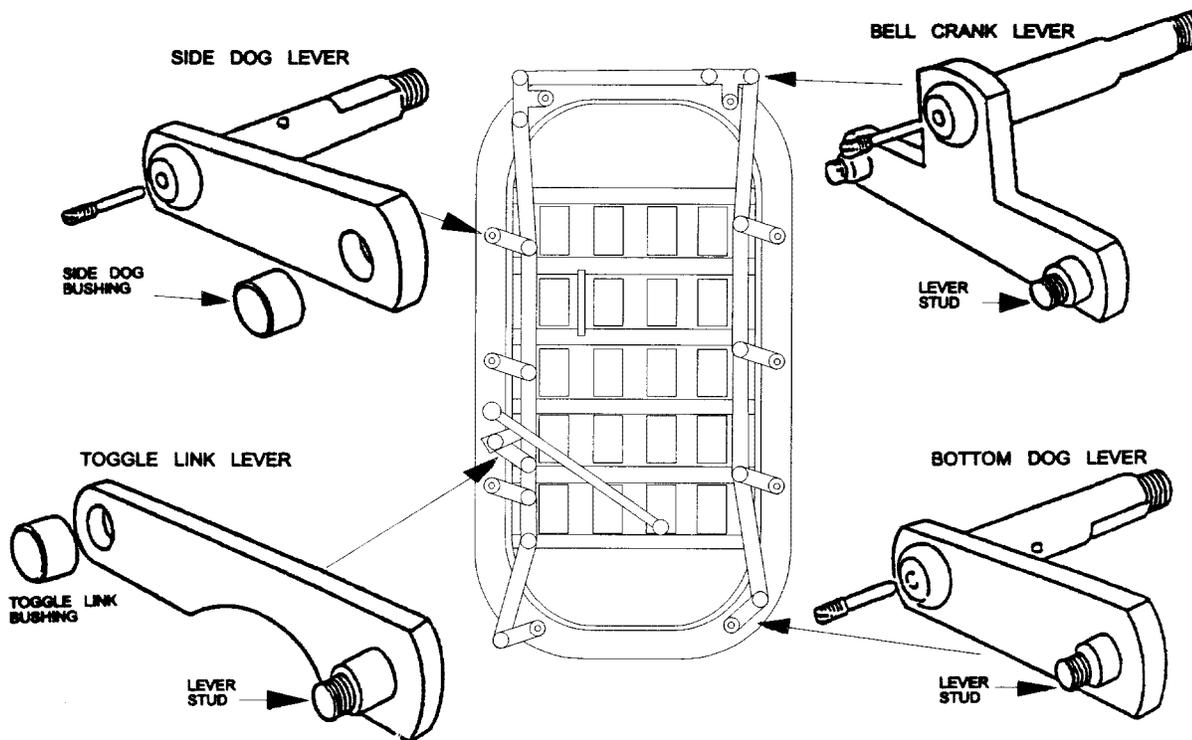

Figure 3-13. Quick Acting Door Levers
- a. For quick-acting doors, completely disassemble the entire operating handle, spindle, lever, and conrod assemblies. See figure 3-13, and refer to paragraph 3-2.6 and paragraph 3-2.7 for procedures on disassembling operating handles and lever/conrod assemblies. To make reassembly easier, mark each linkage part and its location with a metal etcher. For individually dogged doors, completely disassemble each dog. Refer to paragraph 3-2.8 for instructions.